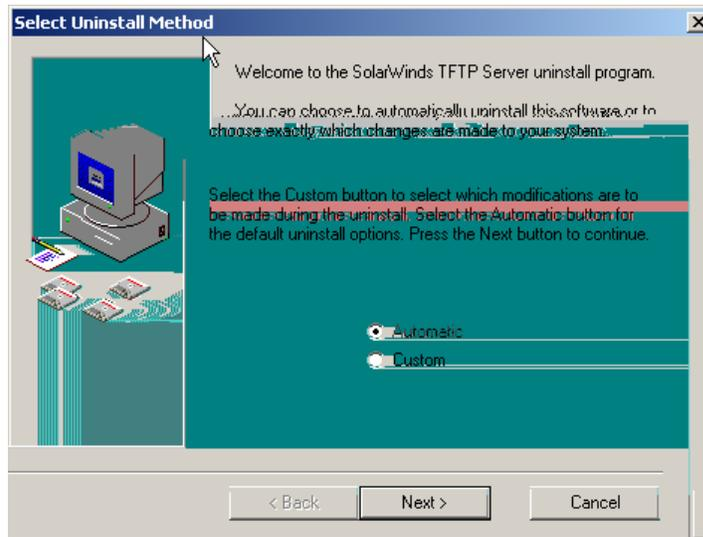

Figure C-2: Select Uninstall Method Window
2. Select **Automatic** and then select **Next**. Refer to Figure C-2.